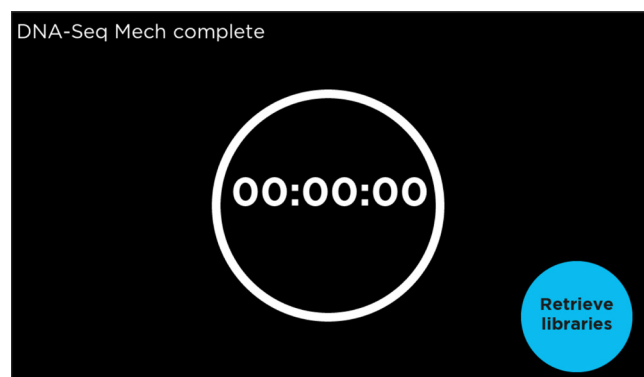

Figure 15. Run complete screen.
4. Remove sample deck and reagent cartridge (Figure 15), placing the sample deck into the sample deck stand.